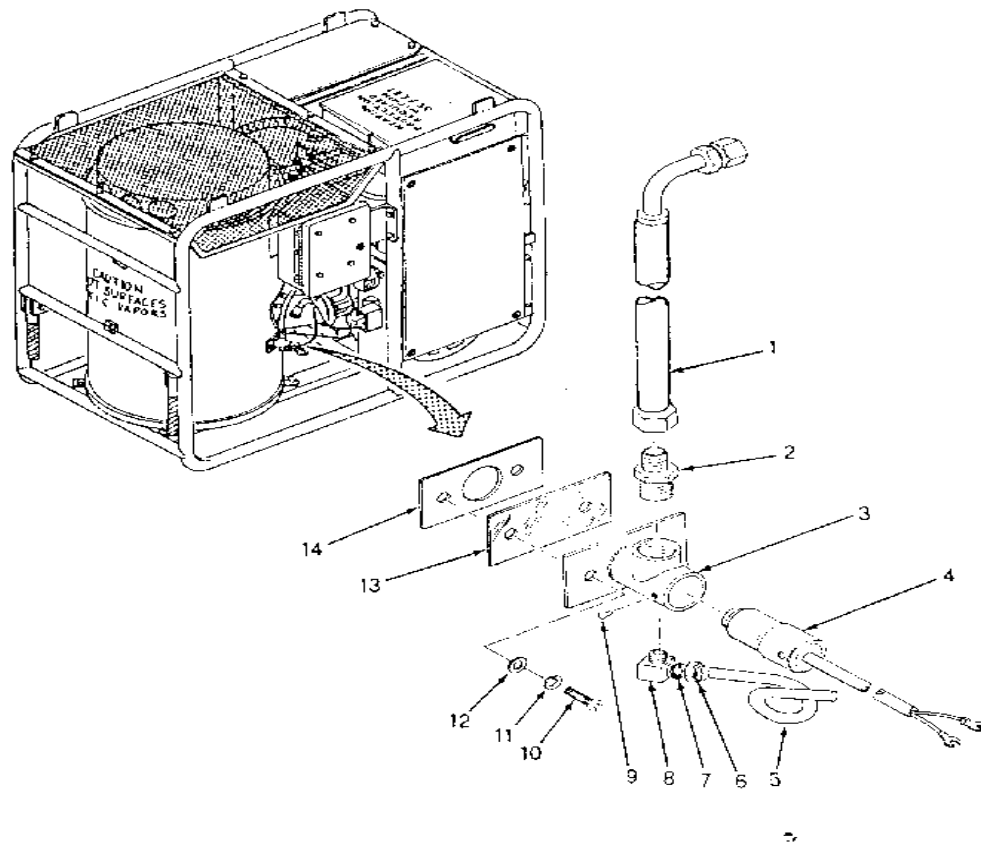

Figure 17, Photocell
Step 23: Photocell. (Figure 17)
- Loosen setscrew (9) and remove photocell assembly (4) from tee (3).
- Install photocell assembly (4) on Tee (3) with screw (9), being careful not to crack photocell, and connect wire 33 to TB2-5 and wire 34 to TB2-6.